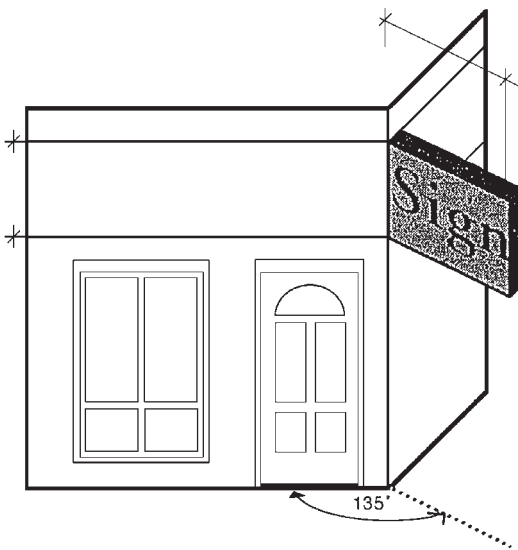

Figure-10
- b. Corner projecting signs are those that are visible from two or more intersecting streets, and shall be allowed as long as they do not exceed 40 square feet per face. The use of corner projecting signs shall preclude the use of any other signs. (See Figure-10)